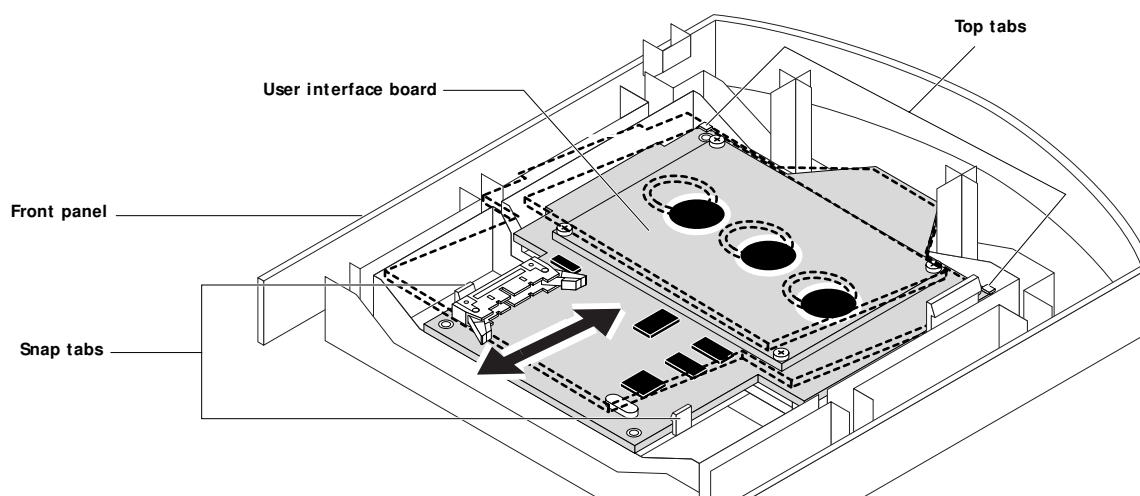

FIGURE 4-14 Removing the user interface board
5. Lift up slightly on the bottom edge of the board and slide the board out from under the top tabs on the front panel (see Figure 4-14).
1. **Place the user interface board in the front panel at an angle so that the top edge of the board fits under the top tabs (see Figure 4-14).**